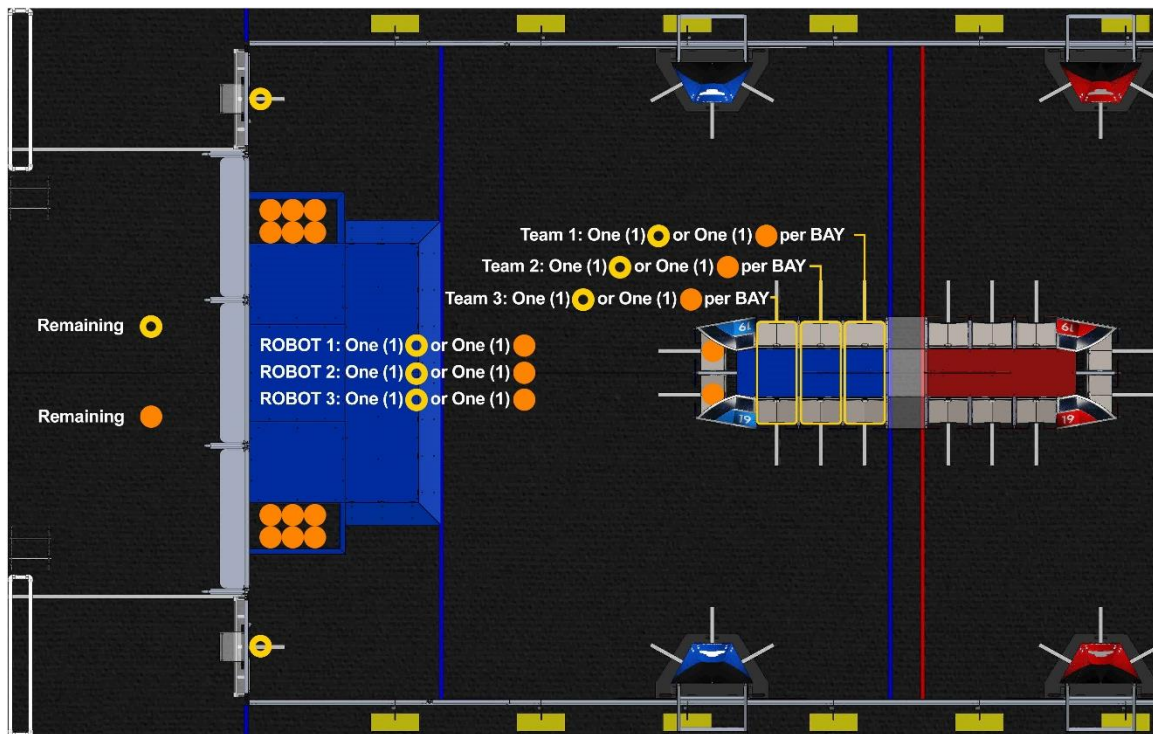

Figure 5-2 GAME PIECE staging (~1/2-FIELD shown)
- E. One (1) CARGO is staged in each of the two (2) ALLIANCE WALL-facing CARGO SHIP BAYS
- F. Each team must prepopulate one (1) CARGO or one (1) Null HATCH PANEL (a HATCH PANEL marked with white tape and hardware installed to secure Null HATCH PANEL to the CARGO SHIP, see drawing GE-19244) in each of their two (2) designated CARGO SHIP BAYS (designated per the MATCH schedule and per Figure 5-2). Nonstaged Null HATCH PANELS and CARGO are excluded from MATCH play. If no team decision, the BAY will be populated with one (1) CARGO. If order placement of GAME PIECES matters to either or both ALLIANCES, the ALLIANCE must notify the Head REFEREE during setup for that MATCH. Upon notification, the Head REFEREE will require ALLIANCES alternate placement of all GAME PIECES. In a Qualification MATCH, GAME PIECES will be placed in the following order: Blue Station 1, Red Station 1, Blue Station 2, Red Station 2, Blue Station 3, Red Station 3. In a PLAYOFF MATCH, the same pattern is applied, but instead of Red ALLIANCE placing last, the higher seeded ALLIANCE (regardless of color) places last.